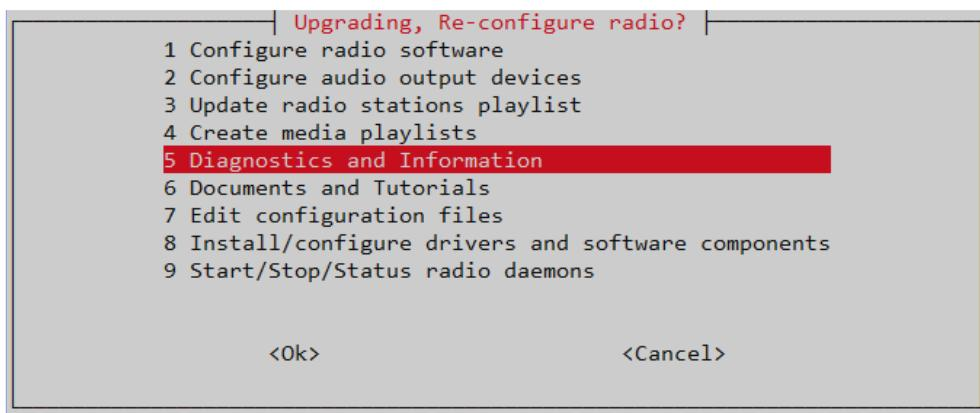

Figure 240 Diagnostics and Information menu
- Select option **1 Run the radio in diagnostic mode (nodaemon)** shown in *Figure 240 Diagnostics and Information menu* on page 201.
- Select option **2 Test rotary encoders** from the diagnostics menu. shown in *Figure 240 Diagnostics and Information menu* on page 201.
- Select option **2 Test rotary encoders** from the diagnostics menu shown in *Figure 240 Diagnostics and Information menu* on page 201.
- Select option **4 Test events layer** from the diagnostics menu shown in *Figure 240 Diagnostics and Information menu* on page 201. This displays the following output